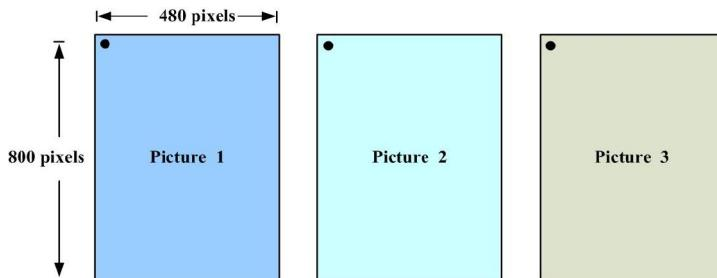

Figure 4.10. Original photo's resolution format
1. Prepar three 24 bit *bmp* format photos and image resolution should be 800(high) x 480(width), as shown in Figure 4.10